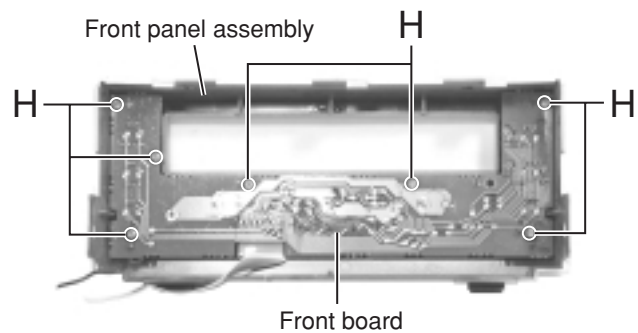

Fig. 11
■Removing the front board (See Fig.11)